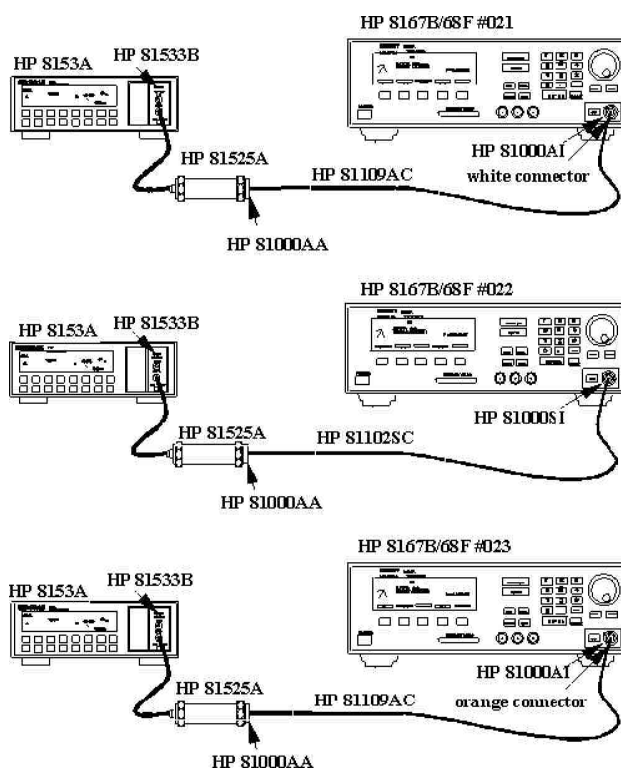

Figure D-3.
- HP 8167B,68F as shown in Figure D-3